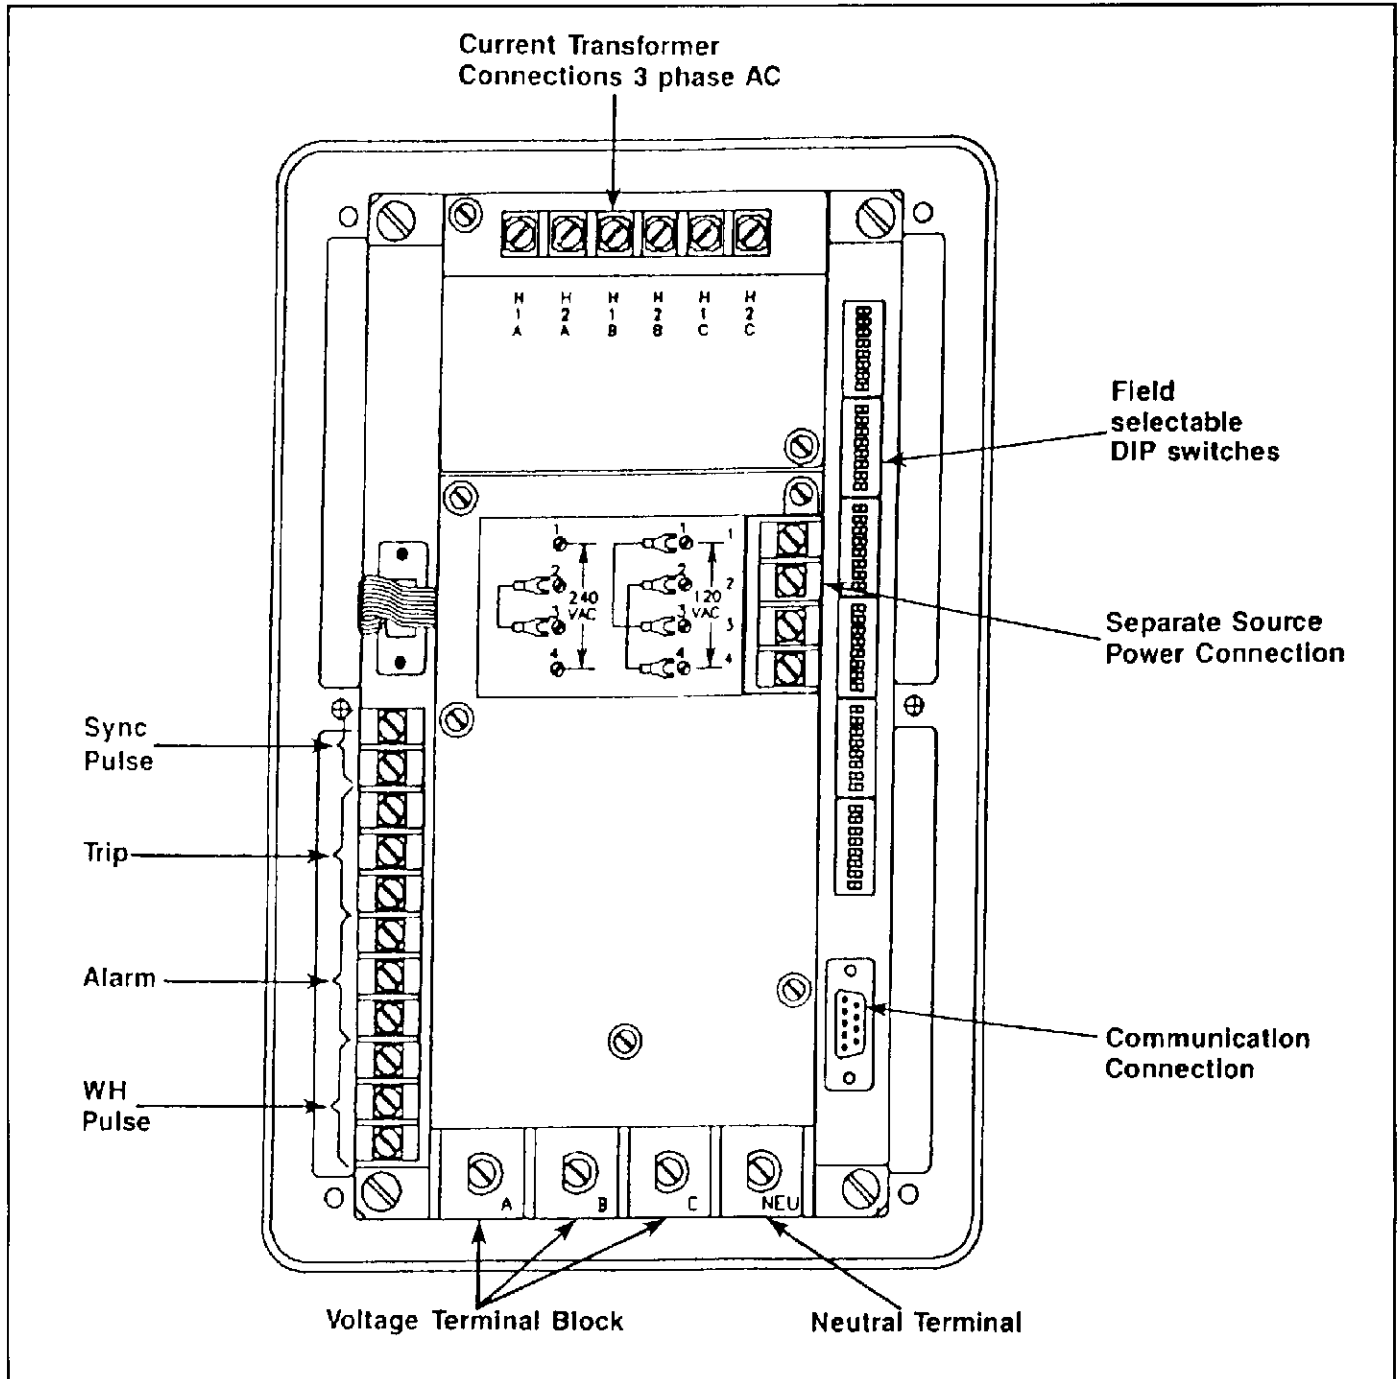

Fig. 3 IQ Data Plus II with Separate Source Power Supply Module
Disconnect all power to the IQ Data Plus (II), including power to the relay contacts of the device. Clearly mark wire connections to the voltage terminal block. Refer to Figure 3 or your IQ Data Plus (II) technical manual. If replacing an existing Separate Source Power Supply Module then clearly mark the wire connections to the SSPSM separate source power connection terminal block. Disconnect all wires from the existing Power Module.
Place the Separate Source Power Supply Module in its mounting position on the rear of the IQ Data Plus (II) chassis as shown in Figure 3. Replace the two mounting screws to secure the SSPSM. Reconnect all wires to the SSPSM. Connect the ribbon cable of the SSPSM to the Power Module Connector on the IQ Data Plus (II) and screw the plug lock assembly tight.